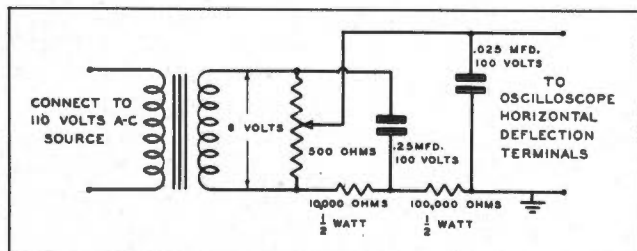
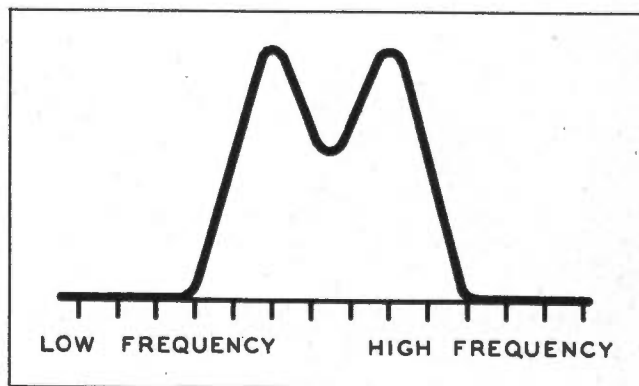

Figure 5-5. Schematic Diagram of Phasing Circuit Used with Oscilloscope when Tuning Pre-amplifier Coils
Figure 5-6. Sample Image to be Obtained when Tuning Pre-amplifier Coils
(4) Provide an external sweep circuit for the oscilloscope (horizontal) according to the circuit illustrated in figure 5-5. The frequency of the voltage from this circuit must be the same as that driving the modulating capacitor of the sweep oscillator. The response curve on the oscilloscope screen will have linear frequency distribution. Adjust the phasing potentiometer of this circuit until the voltages are correctly phased. This can be determined when the image appears as shown in figure 5-6. Use the horizontal amplifiers of the oscilloscope.
(5) Obtain an absorption-type wavemeter whose range includes 25 to 35 megacycles and couple closely to the plate terminal on the diode-detector. This will cause a calibration mark to be superimposed on the oscilloscope trace in the form of a pip. The pip will occur at the frequency for which the wavemeter is set.